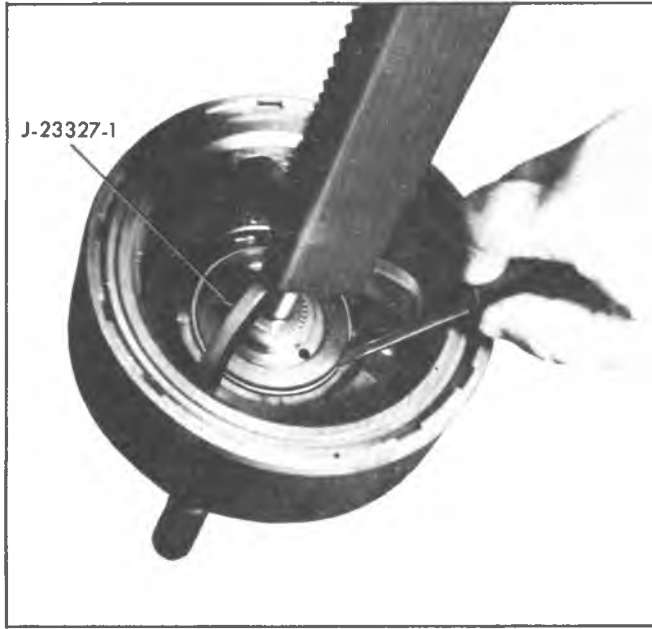
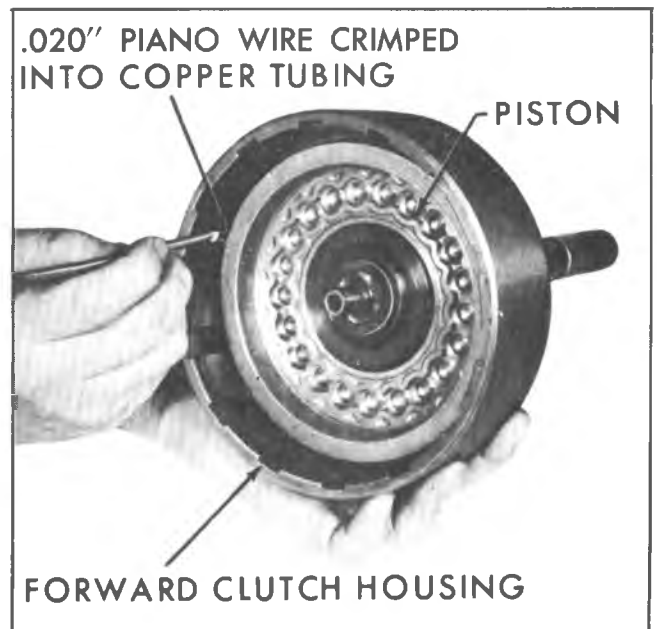

Fig. 74N--Compressing Forward Clutch Piston Return Seat
Fig. 77N--Installing Forward Clutch Piston
4. Using tool J-23327, compress piston return seat and remove retaining ring (fig. 74N).
2. Install the forward clutch piston assembly with the aid of a feeler gauge or a piece of .020" piano wire crimped into copper tubing (fig. 77N).
3. Install twenty-one (21) clutch return coil springs.
4. Install spring retainer. Compress spring retainer and install retaining ring using tool J-23327-1 as shown on Figure 74N.